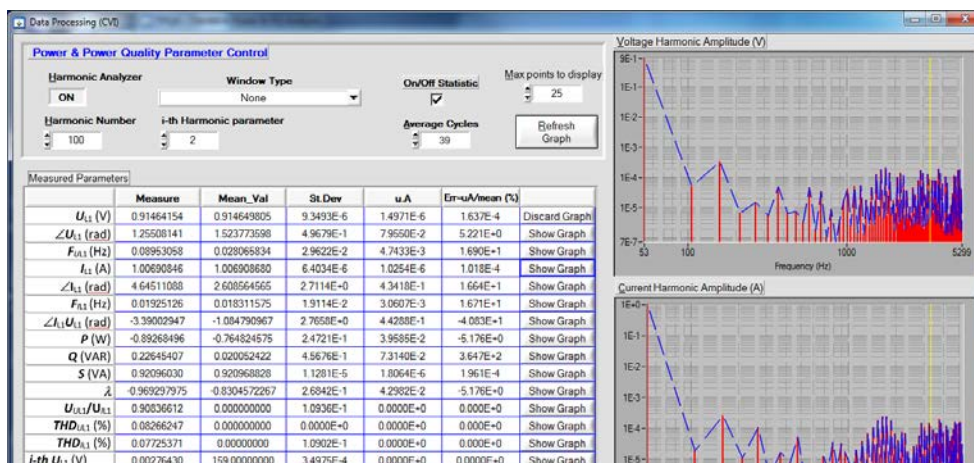

Figure A.17: Preliminary (on-line) data processing using NI-CVI FFT algorithms.
The second GUI for data processing elaboration can be activated by pressing “**CVI Data Processing**” command button, Figure A.16, which opens the panel shown in Figure A.17
- a) “**CVI Data Processing**” command button opens the panel shown in Figure A.17. Here there are situated the main waveform parameters computed using native algorithms furnished by NI (National Instruments).